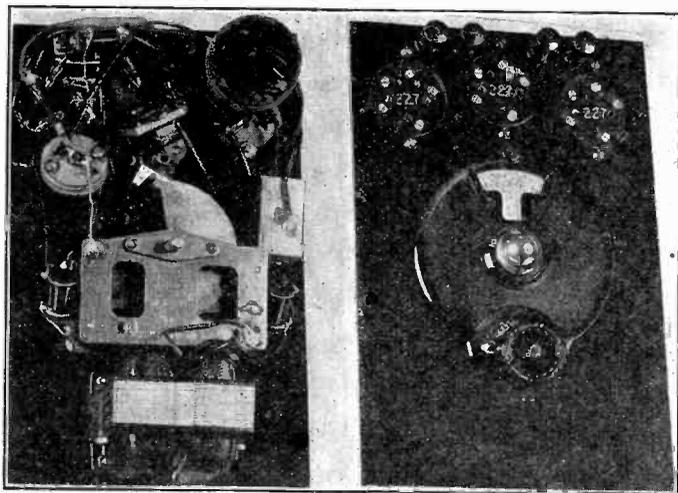
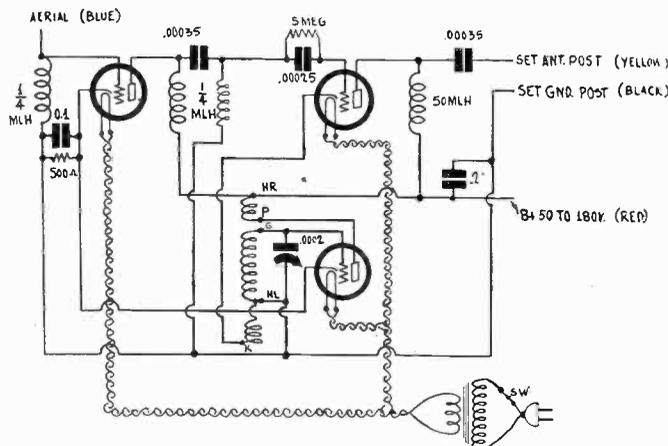

Fig. 1
Fig. 2
The model mentioned under (1) was built on a 5x6½-inch panel that fits into a wooden cabinet. Using a somewhat larger panel, 6x9 inches, room is provided for the filament transformer. How the larger sized layout appears is shown in Fig. 1, while the diagram of this is printed as Fig. 2. It is the same diagram as used for the smaller model, except for filament transformer added, but as there is not much doing above 80 meters, it was considered advisable to make the coil of lesser inductance, to tune from about 20 to 81 meters, with the .00035 mfd. condenser used. The winding data for this is as follows: On a tubing 1¾ inches in diameter, using No. 24 silk covered wire, wind six turns for the secondary, tap, and wind one more turn for pickup. Leave ⅛ inch space and wind 12 turns for the tickler. The connections, top to bottom, are: beginning of the secondary winding to grid of the oscillator tube, tap to ground, end of single-turn winding to cathode of the modulator, beginning of tickler (adjoining end of other coil) to B plus, and remaining tickler terminal to plate of the oscillator. The B plus voltage should be 50 volts or more, while even up to 180 volts may be used. This voltage you must obtain from the receiver with which the converter is worked.